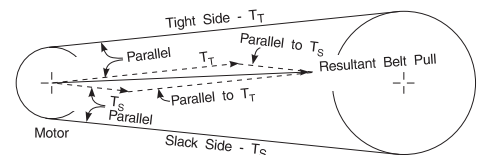

Figure 34 – Graphical Addition of  $T_T$  and  $T_S$
- A.** If only the magnitude of belt pull is needed, numerical methods for vector additions are faster than the graphical approach. If both magnitude and direction of belt pull are required, the vector sum of  $T_T$  and  $T_S$  can be calculated by graphical vector addition as shown in Fig. 34. The  $T_T$  and  $T_S$  vectors are parallel to the tightside and slackside, respectively, and they should be drawn to a convenient scale; i.e. 1 in. = 100 lb.
Fig. 34 shows the vector addition for belt pull on a motor shaft. Use the same procedures to determine the belt pull on the driveN shaft. This graphical illustration method should also be used for drives that have three or more sheaves or idlers.